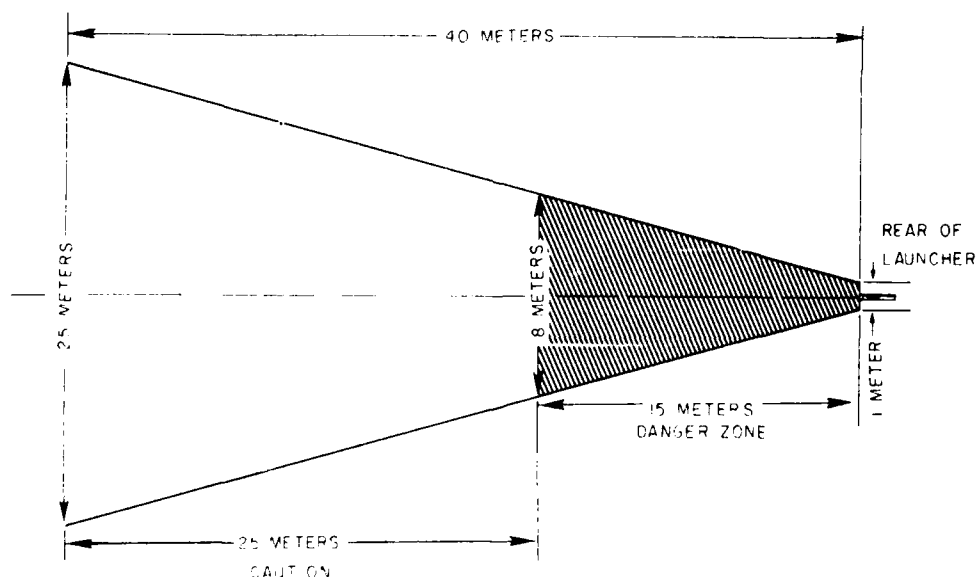

Figure 5-73.—Backblast area.
of fire so that you will be clear of the backblast area (fig. 5-73). Your back should be straight and your right leg directly on an imaginary line running through the right hip and right shoulder. Move your left leg as far back as possible with comfort. Keep both heels on the ground. Hold both elbows well below the launcher. Hold your head as steady as possible with your right eye lined up with the sights. If an occasion that requires tracking a moving target should arise, maintain a 45° angle so that the backblast is not directed at your feet and legs.
3. Avoid the blast of flame and ejected residue to the rear of the launcher. Remove flammable material, such as dry vegetation, from the backblast area (fig. 5-73). Keep personnel and ammunition clear of the rear danger area unless adequate shelter protection is provided. Sand or loose dirt in the backblast area will also reveal your position to the enemy.